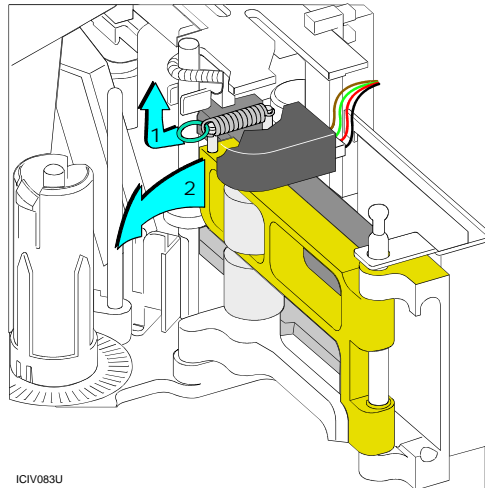

Figure 7-9: Open the card track gate
- 6 Lift the card track gate release (step 1 in Figure 7-9) and move the gate back (step 2 in Figure 7-9) to allow access to the magnetic stripe head.